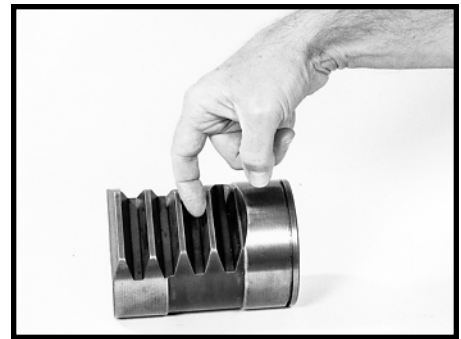

Figure 84
1. Inspect the rack piston (31) teeth for cracks and wear. If you can detect a step by running your fingernail horizontally across the teeth surface, you must replace both the rack piston and sector shaft (50) and set of 27 balls (42). SEE FIGURE 84.